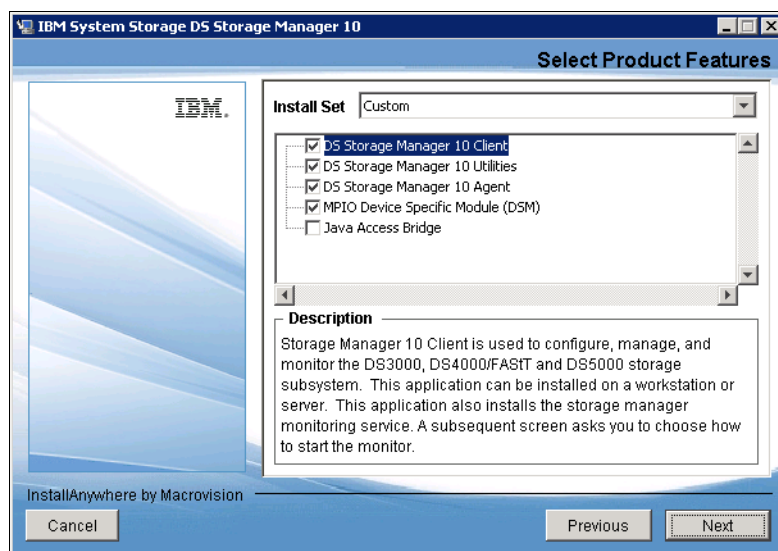

Figure 3-8 InstallAnywhere: Select Storage Manager components
- b. Decide what type of installation you want. Two additional choices are offered: Typical (Full Installation) and Custom. As the name indicates, Typical (Full Installation) installs all components and Custom installation lets you choose the components, as you can see in Figure 3-8.